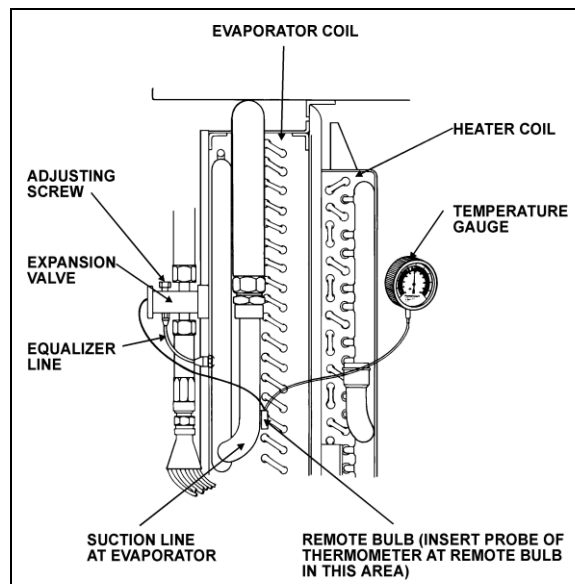

FIGURE 51: SUPERHEAT ADJUST. INSTALLATION 22046
3. Install a remote reading thermometer to the evaporator outlet line near the existing remote bulb (Figure 51).